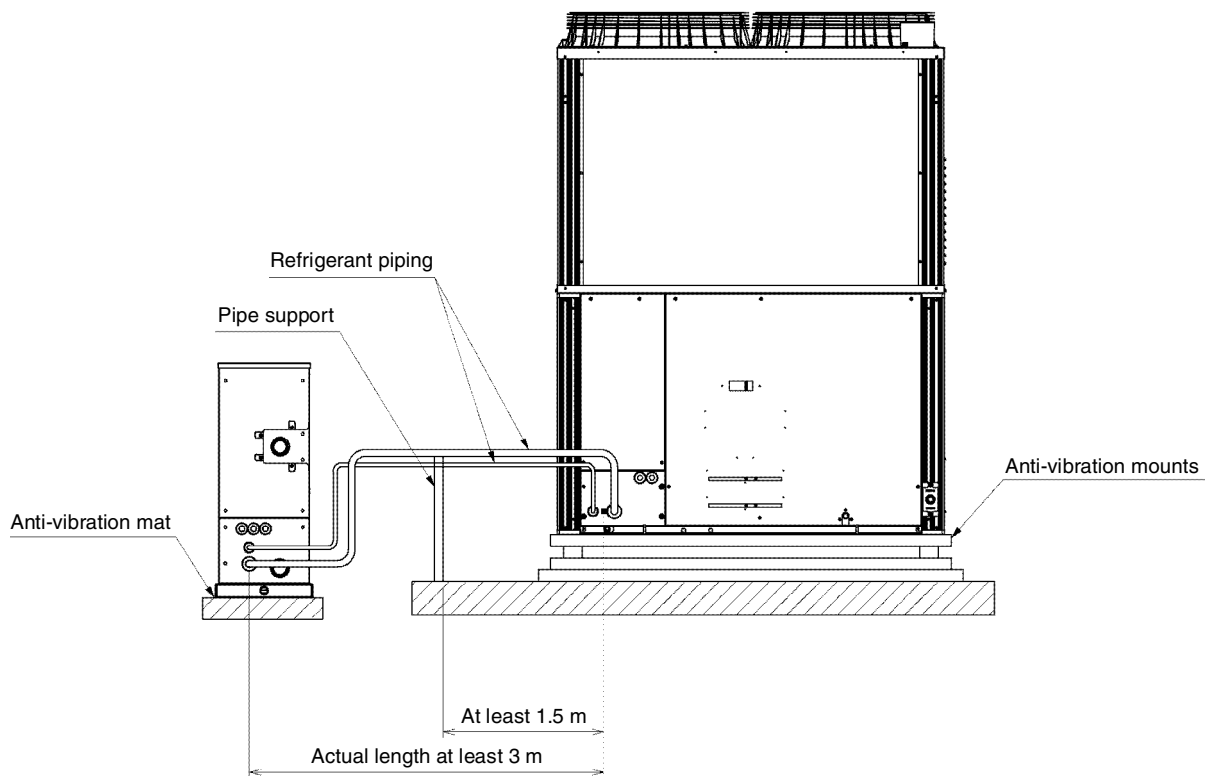

Figure 8
- When only the outdoor unit is installed on anti-vibration mounts, the actual length of refrigerant piping between the outdoor unit and the water heat exchanger should be at least 3m, and include bends in at least two places (Fig. 8).